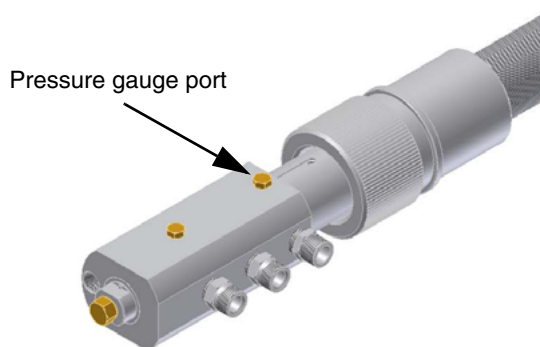

Fig. 12
- 9 The nozzle supply pressure is already factory-set and must not be changed. Only if necessary, adjust the supply pressure as follows (see related paragraph); insert a pressure gauge into the port shown on Fig. 12 and act on on the pump adjusting screw **VR** (see Fig. 11 and page 12) as to get the nozzle pressure at 25bar (Fluidics/Bergonzo nozzles - see diagram on page 23).